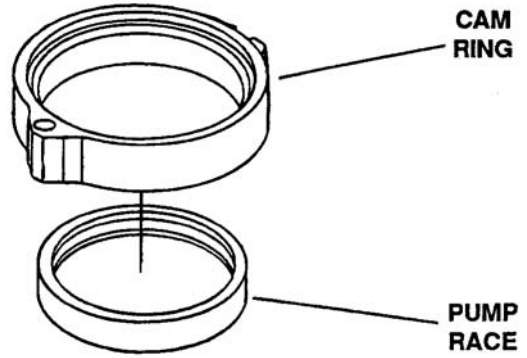

Figure 6-100. Inspecting Pump Race
13. Inspect area where the ball pistons contact the race. This area must be smooth and completely free of irregularities. If it is not, replace the pump race. See Figure 6-100.